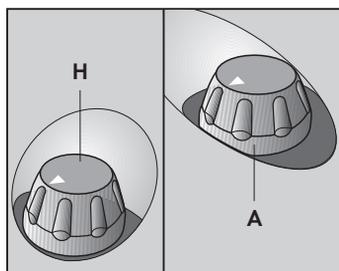

Fig. 10
- Allow the boiler to reach the operating temperature. When the green warning light (L) is on, the appliance will be ready for use.
- To adjust the volume of steam, rotate the knob (H) **(Fig. 10)**. Rotate the knob clockwise for a powerful steam flow or anti-clockwise for a weaker steam flow.
- To regulate suction, turn the knob (A). Turn clockwise for powerful suction and anti-clockwise for reduced suction **(Fig. 10)**.